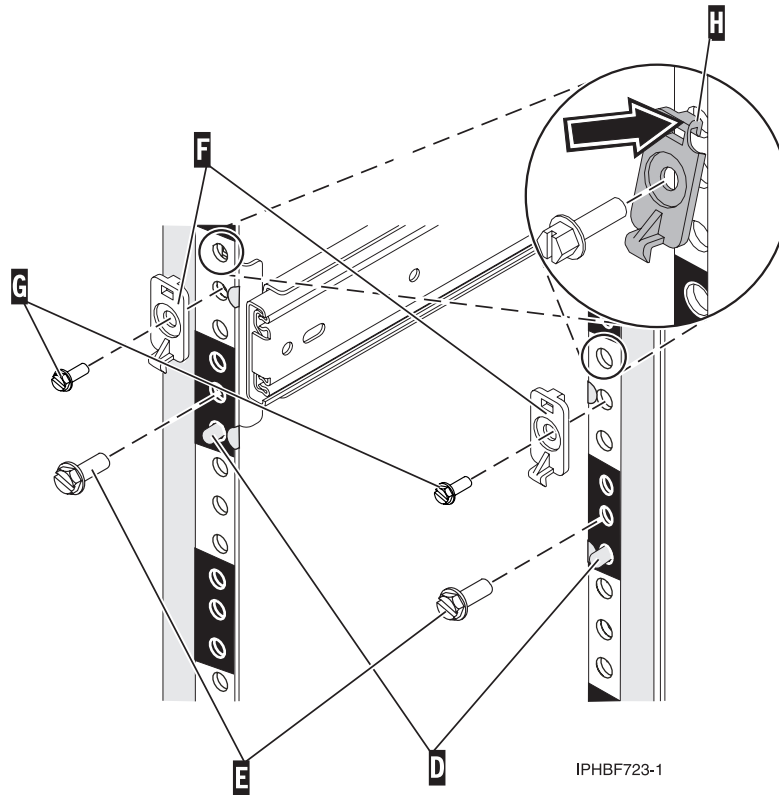

Figure 128. Front slide rail alignment pin, retaining screws, and latch bracket.
3. Insert the right side rail's front-alignment pin, **D** in Figure 128 on page 127, into the rack front flange hole identified by the self-adhesive placement dot that you previously installed. Have a second person hold the rail securely in the front hole.
7. From the front of the rack, finger-tighten one of the large rail-retaining screws into the hole that is located above the front alignment pin, E in Figure 128.
8. Locate one of the latch brackets, F in Figure 128. Insert the tab at the top of the latch bracket into the rack as shown H.
9. Attach the latch bracket to the rack with a small rail-retaining screw G in Figure 128. Finger-tighten the screw.